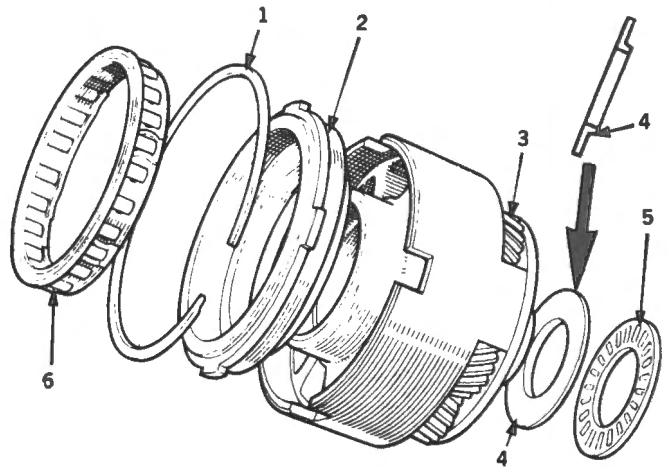

Fig. M-80
- 3 Retain the thrust washer and Torrington bearings plate to carrier as shown in Fig. M-80.